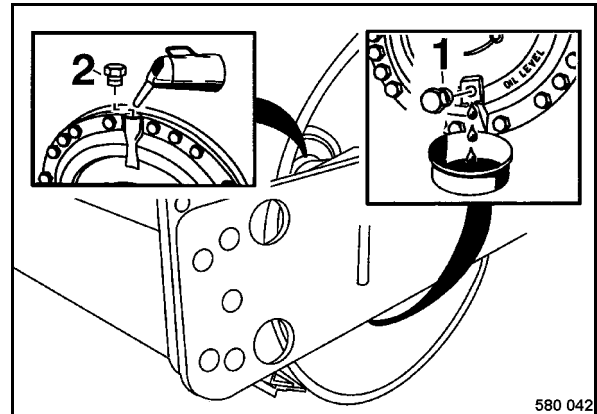

Fig. 143
- Unscrew the level plug 1 (Fig. 143) at the bottom of the drum and fill in oil through the filler bore (2), until it starts to run out through the level bore.